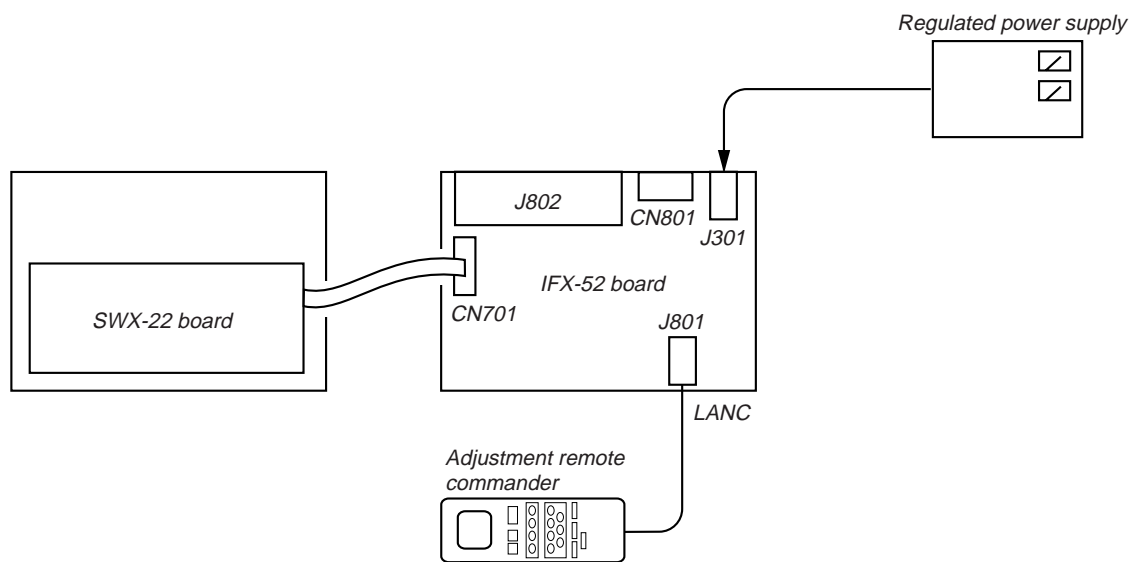

Fig. 4-1
- 5) Connect the measuring instruments as shown in Fig. 4-1.